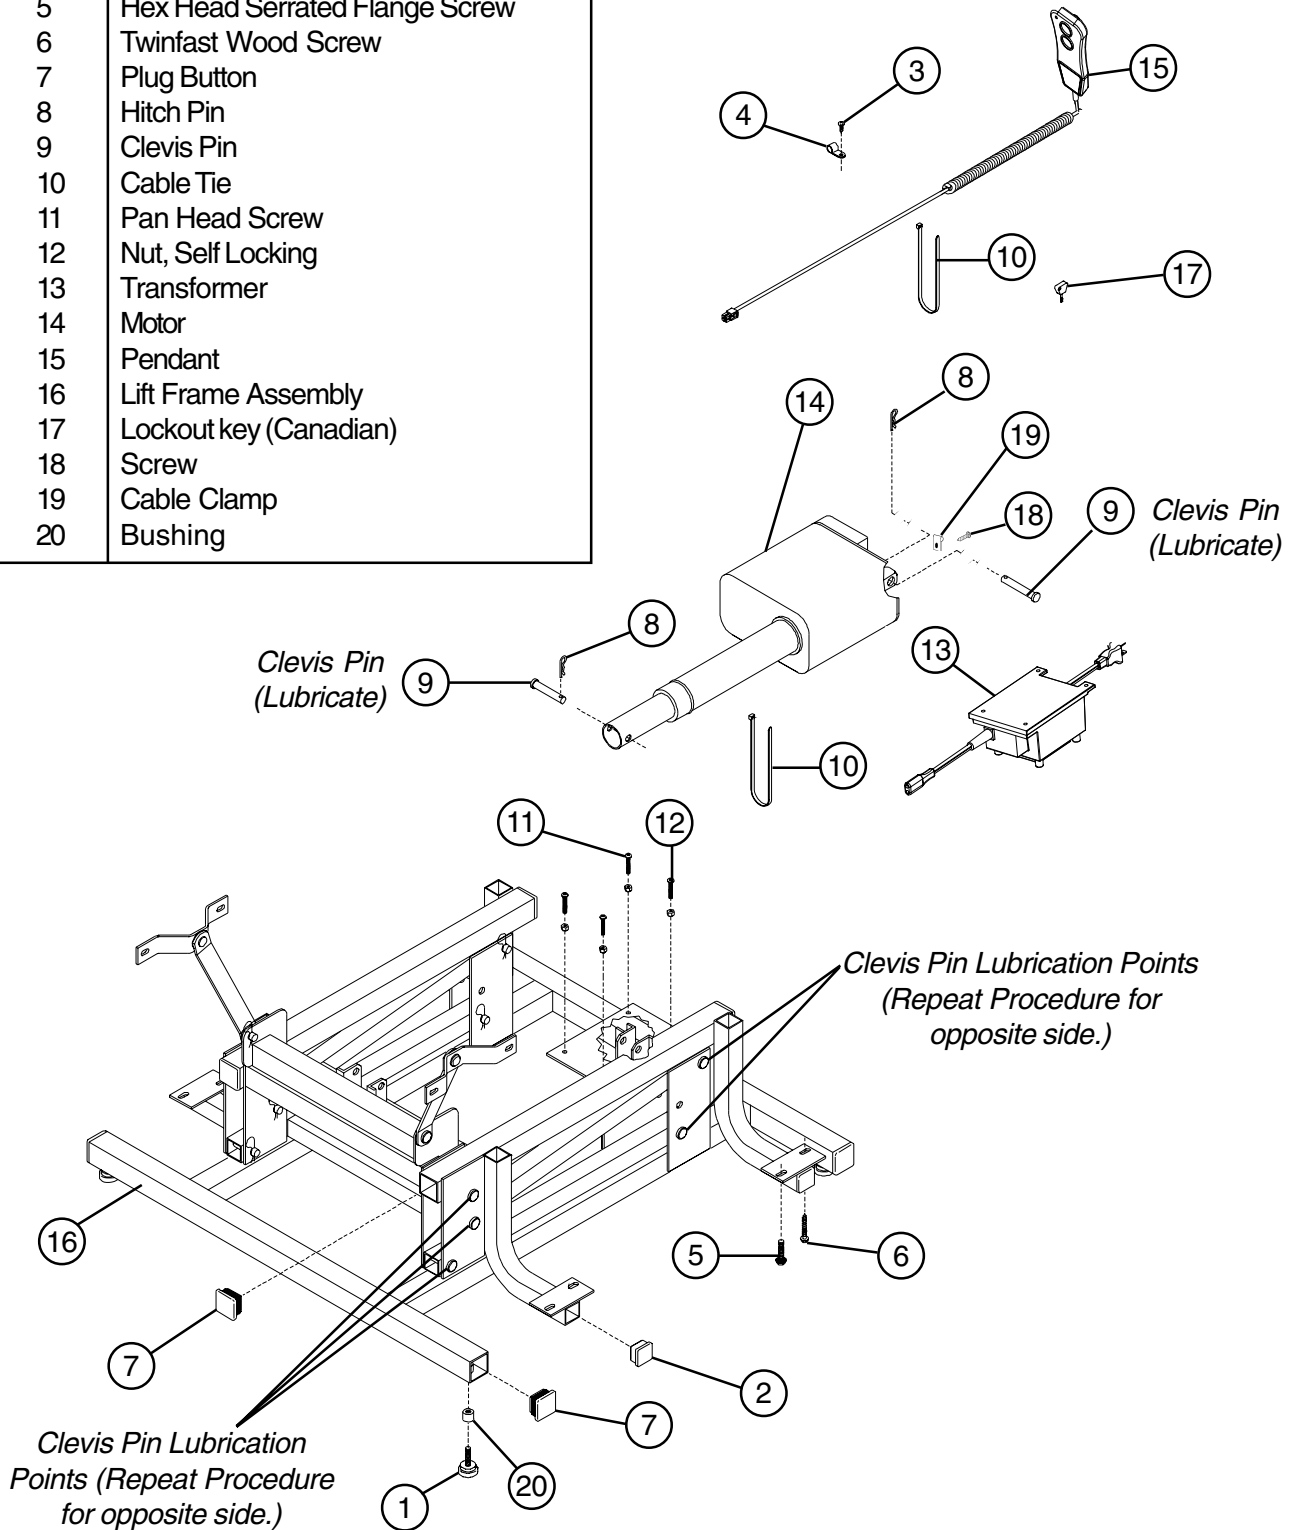

FIGURE 3 - LUBRICATION POINTS
Lubrication Points (FIGURE 3)
5. Perform the following to one (1) clevis pin one at a time (**12 in all**) as in **FIGURE 3 - LUBRICATION POINTS** in this **INSTRUCTION SHEET**: